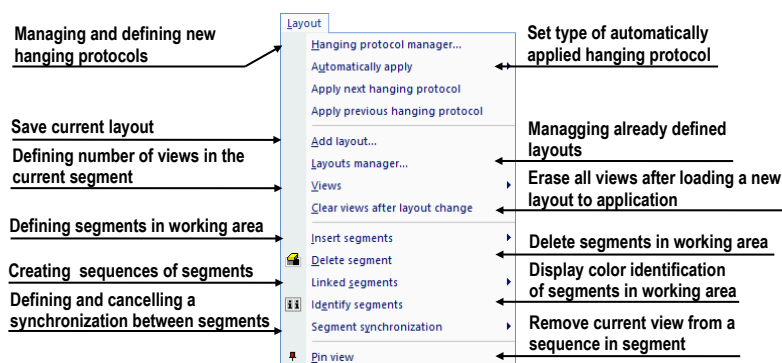

Figure 41 – Layout menu
- **Layout** – the functions for managing layouts and hanging protocols, such as creating a layout or hanging protocol, defining sequences or synchronizations, etc. (see Figure 41).